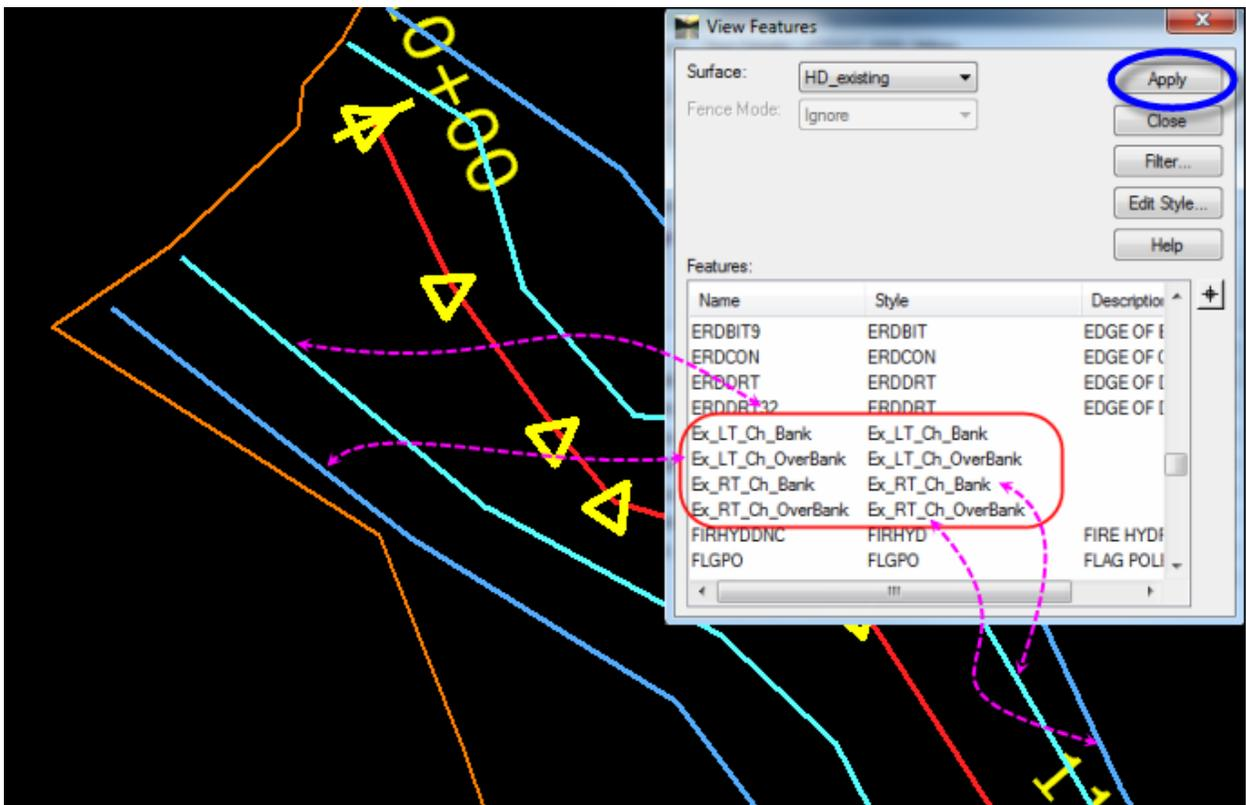

Figure 14 - View Features
- F. Click on **Surface > View Surface > Features**. In the View Features dialog box **select each feature line** just imported into the surface. Make sure **HD_existing** is the selected surface. From Features: select **Ex_LT_Ch_Bank** and click **Apply**. A line should appear in the MicroStation window over the line drawn for the existing left channel bank. **Repeat** for the other features: **Ex_LT_Ch_OverBank**, **Ex_RT_Ch_Bank** and **Ex_RT_Ch_OverBank**; see Figure 14